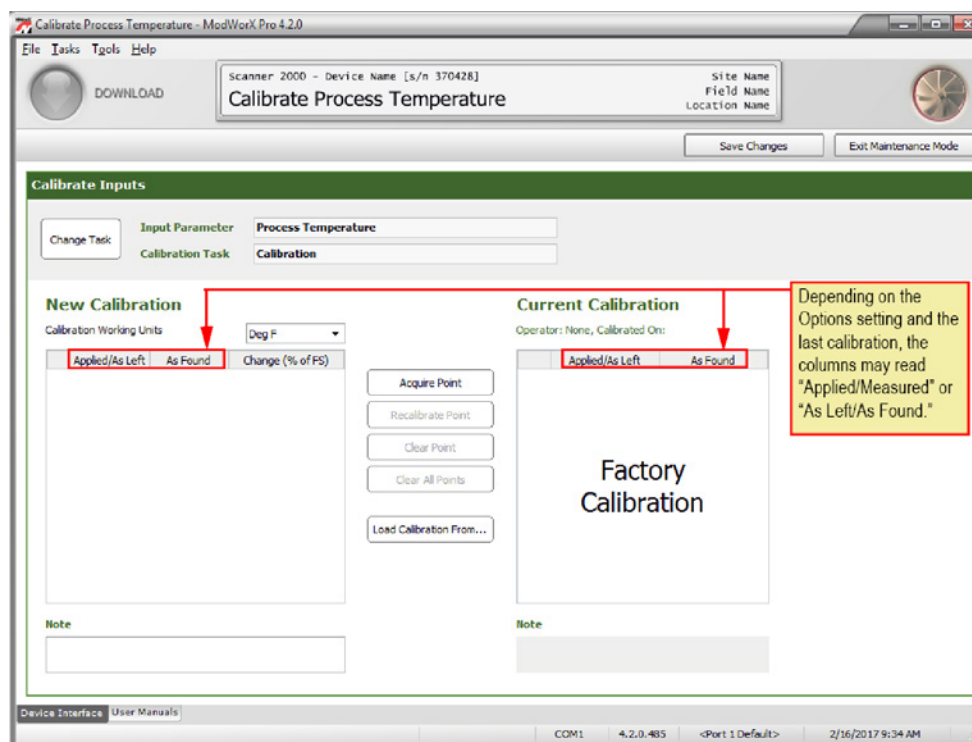

Figure 6.15
1. Observe the calibration settings at the bottom of the screen (Figure 6.15). To calibrate the sensor, click on the blue **Calibrate** hyperlink in the Sensor Calibration section and follow the screen prompts.
- Observe the verification settings at the bottom of the screen (Figure 6.15). To verify the sensor's calibration, click on the blue **Verify** hyperlink and follow the screen prompts.